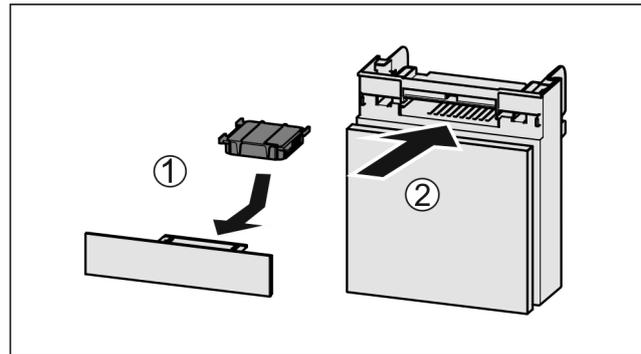

Fig. 149
- ▶ Insert the carbon filter as shown in the diagram Fig. 149 (1).
- ▶ Push the compartment in Fig. 149 (2).